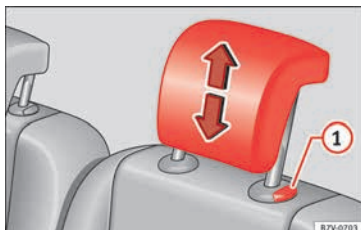

Fig. 154 Fitting the head restraints in the second or third row of seats
- Pull out the head restraint »» Fig. 154 ① with the button pressed.